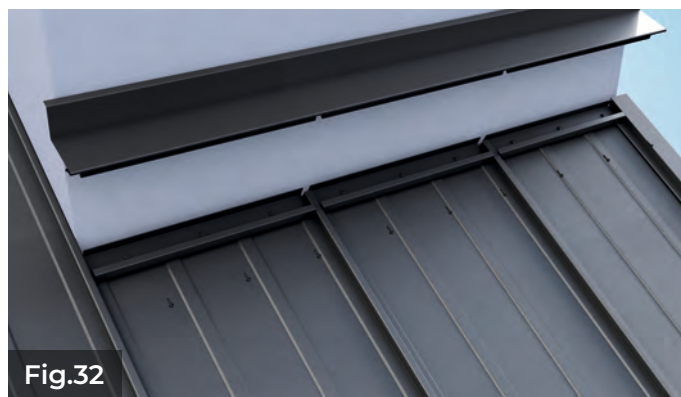

Fig.32
3. The horizontal wall border must be marked and cut at each joining edge of the panel, see fig.32, 33. The border must be fastened to the ridge support using packed self-tapping screws (4.8x35), see fig.33, 34.